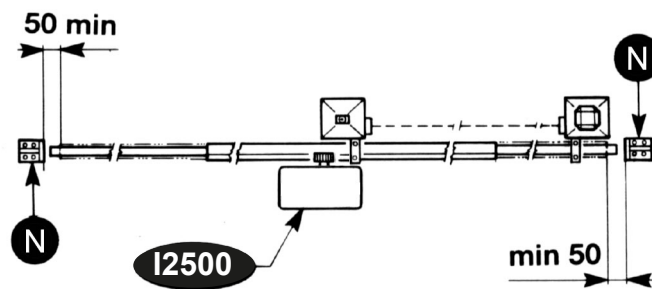
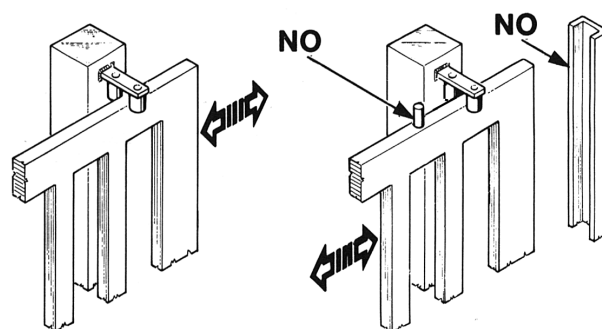

FIG. 2
FIG. 3
- Besides the electrical or mechanical limit switches available on the operators, there must be, on both ends of the installation, a fixed mechanical stopper which stop the gate in the unlikely event of ill functioning of limit switches on the operators. For this reason the fixed mechanical stopper must be of an adequate size to withstand the static and kinetic forces generated by the gate (N) (Fig.2).
- The guide must be provided with two mechanical stops at its ends (N) (Fig. 2). Gate columns shall have anti-derailment guides on their top (Fig. 3), to avoid the unintentional gate release.
N.B: Eliminate those mechanical stops of the kind described by figure 3.